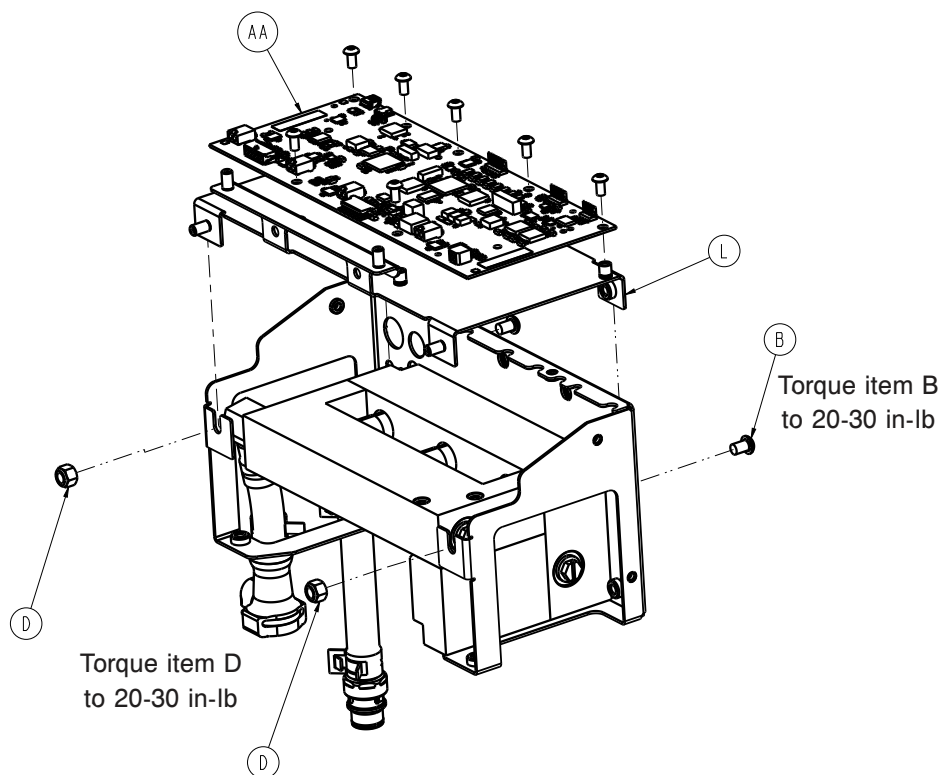

Figure 39: Outer manifold bracket to MCB support bracket
2. Once the manifold assembly is removed, using a T25 torx remove the two screws (B) securing the outer manifold bracket to the MCB support bracket. (Figure 39 on page 54)